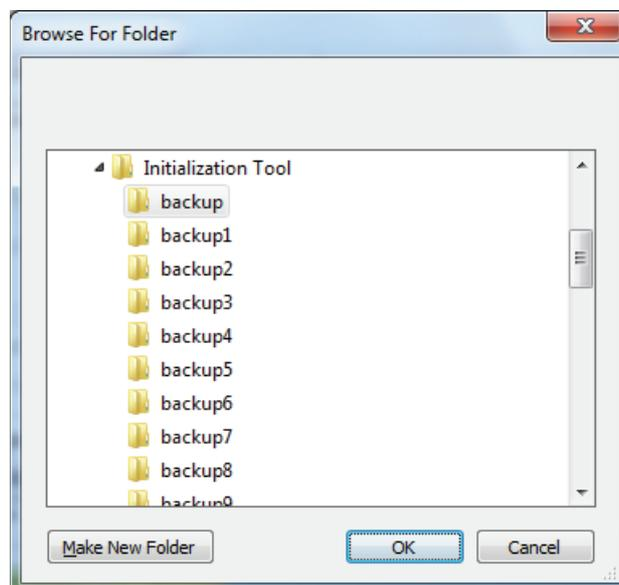

Fig.329 [Browse For Folder] screen
- 3 Specify a folder in which to download. (Fig.329)**